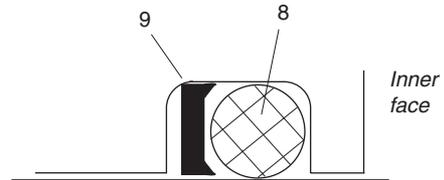

Fig. 3 End Cap O-Ring and Back-Up Washer
Note: The O-ring back-up washers (9) fitted to the accumulator end caps have a flat face and a concave face to allow the ring and back-up washer to seat correctly – see figure 3.
- 1 Lubricate and install a new back-up washer (9) in the groove in the hydraulic end cap (2), with its concave surface facing the inner end of the cap.
- 2 Lubricate and fit a new O-ring (8) against the concave face of the back-up washer, as shown in figure 3.
- 3 Lubricate the threads of the end cap (2) and insert into the tube, facing the plain (hydraulic) side of the piston. Care should be taken not to scrape the O-ring over the tube threads.